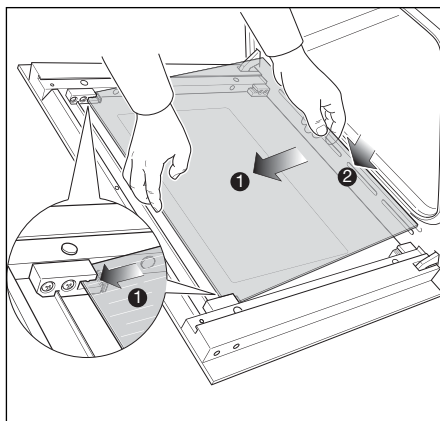
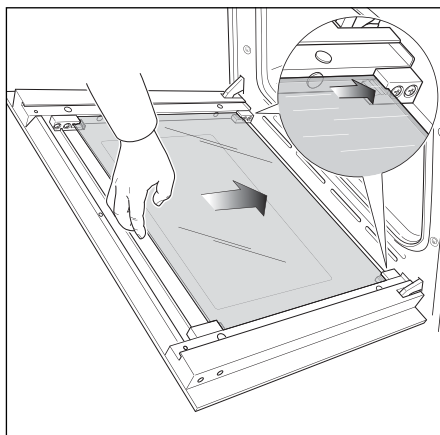

Fig.42b
Fig.42c
- Gently insert the top edge of the pane into the top clamps (arrow 1 in Fig. 42b), then lower the pane and insert the bottom edge into the bottom clamps (arrow 2 in Fig. 42b); and then slide the pane into position (Fig. 42c).